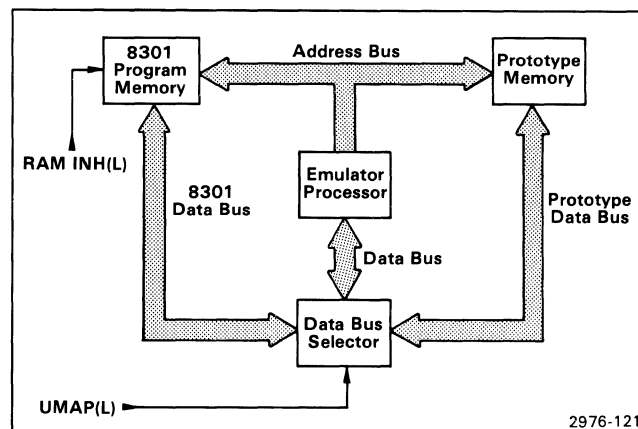

Fig. 9-2. Memory map functional control.
The memory map function involves both the 8301 Program Memory and the prototype memory, when operating in emulation mode 1. This function permits mapping assignments to be made to the 8301 Program Memory and/or the prototype memory. Figure 9-2 shows the functional control of the memory mapping feature. Memory mapping permits the user to assign 128-byte blocks of memory address space to either the 8301 Program Memory or the prototype memory, throughout a total address space of 64K bytes. The UMAP(L) control line determines whether the 128-byte memory block is stored in program memory or prototype memory. This function also provides write protection to the 8301 Program Memory. The memory write protect function is similar to the memory mapping, in that any 128-byte block within the 8301 Program Memory 64K address space can be write-protected. The RAM INH(L) line determines which of the 128-byte blocks of program memory are write-protected. If a write violation occurs, an interrupt is generated. The write-protect function does not affect the prototype memory.